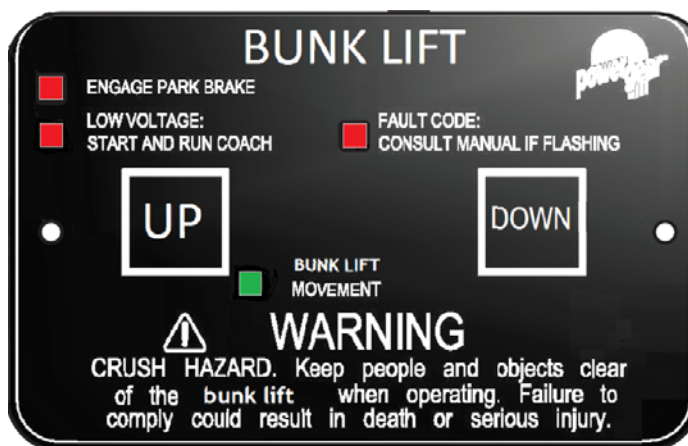

Figure 1 Touchpad
- Touchpad with indicator LED's that mounts to the wall. The touchpad communicates with the control to allow bunk movement and provides end user feedback via LED's. (See Figure 1)
- The **GREEN LED (FIGURE 1 page 1)** indicates the system operation.
- The **RED LED (FIGURE 1, page 1)** indicates a fault or a problem with the system. Refer to the **FAULT DIAGNOSTICS/TROUBLESHOOTING (page 3)** for additional information.
6. Press and hold the **DOWN** button (**FIGURE 1, page 1**). A slight delay is normal before the bunk begins to move.
5. Press and hold the **UP** button (**FIGURE 1, page 1**). A slight delay is normal before the bunk begins to move.
- The **FAULT CODE** LED (**FIGURE 1, page 1**) on the touchpad will flash **RED** a number of times corresponding to a specific fault code. Refer to the **TROUBLESHOOTING** chart (**Figure 5, page 4**) to best determine what caused the fault.
- The **BUNK MOVEMENT** LED (**FIGURE 1, page 1**) on the touchpad will flash **GREEN** a number of times corresponding to which motor had the associated fault.
- For example: if you are seeing four (4) **RED** flashes and two (2) **GREEN** flashes, it means that there is a motor fault on motor 2.
- **MINOR** faults can be cleared by pushing and releasing the **UP** or **DOWN** buttons on the bunk lift touchpad (**FIGURE 1, page 1**).
1. Remove the touchpad (**FIGURE 1, page 1**) from the wall.